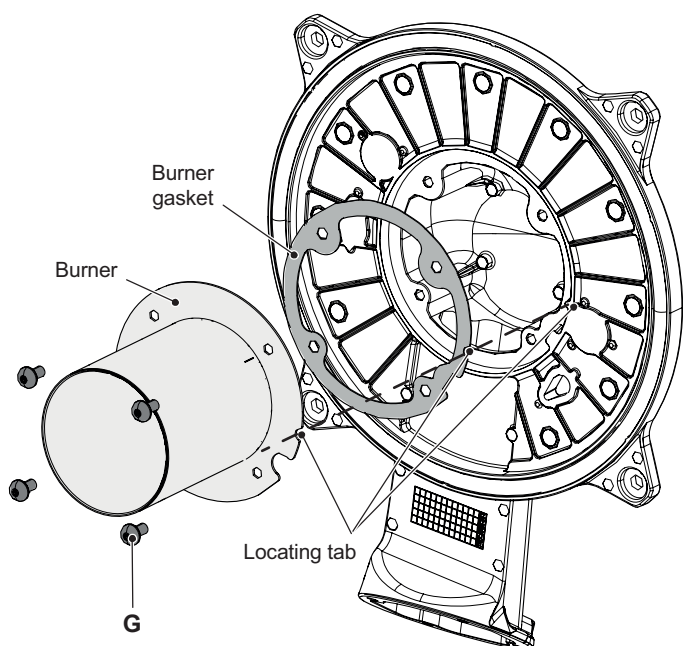

Figure 18.4
- 5 Unscrew the screws "G" (Figure 18.4) and remove the burner.
- 6 Assemble the burner carrying out the removal operation in reverse order. Ensure the burner is correctly located by lining up the locating tab (Figure 18.4).